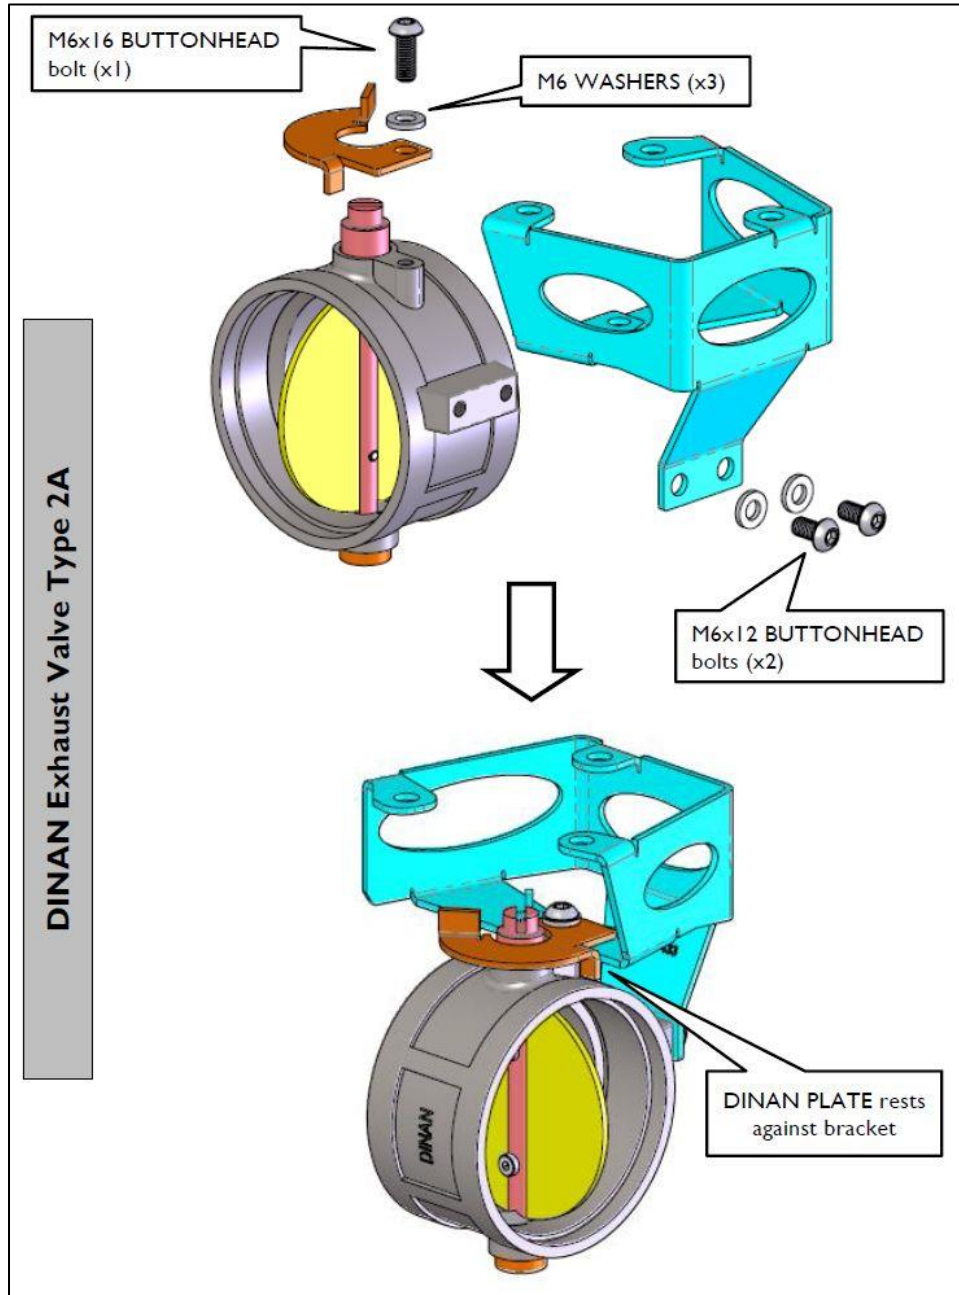

Figure 5: Assembly- Valve Bracket
- 1) Assemble the exhaust valve mount (blue) and D76 limiter (orange) to the valve as shown in Figure 5.